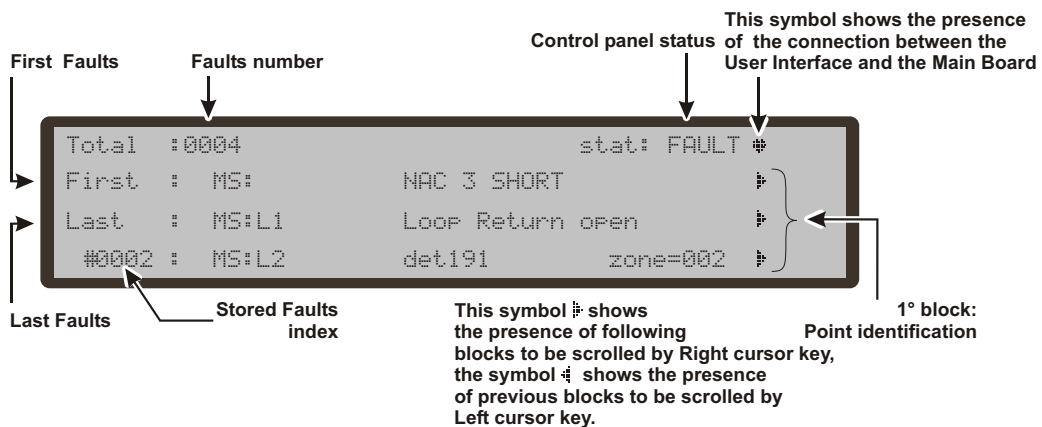

Figure 35 DISPLAY: FAULT STATUS.
Figure 35 shows the Fault status of control panel. The SILENCE button can be used to force FAULT Silenceable output momentarily to standby status. FAULT MEMORY will be signalled by blinking on the FAULT Leds ONLY.
- From Figure 35, in the FAULT STATUS, use the **RIGHT** Key to scroll the second string of data of **fault Zones**;